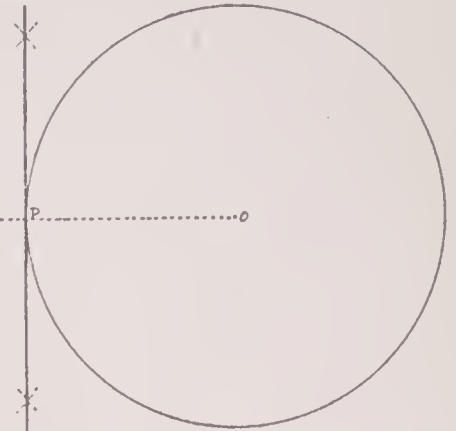

Fig. 13
13. To draw a tangent to a circle at a given point in the circumference (Fig. 13):